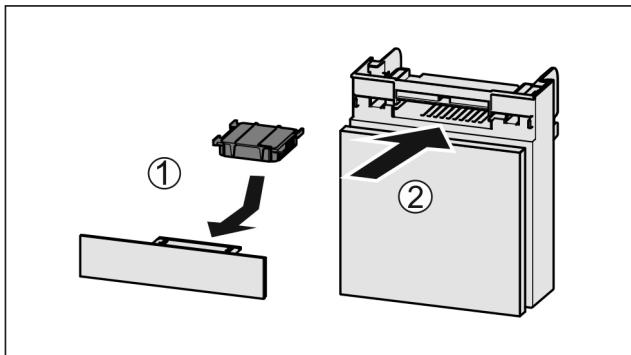

Fig. 111
- ▶ Insert the carbon filter as shown in the diagram Fig. 111 (1).
- ▶ Push the compartment in Fig. 111 (2).